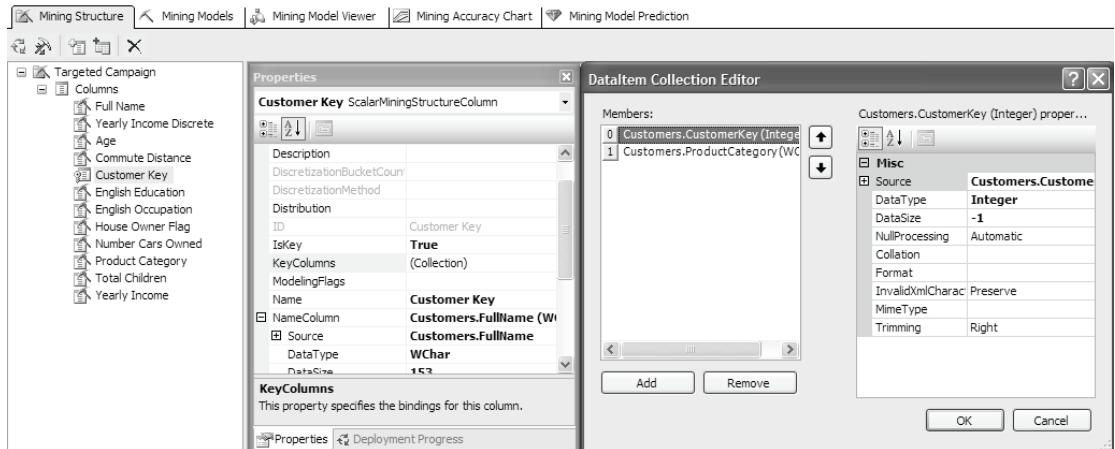

Figure 7.15 Use the Properties window to set the column properties and bindings.
Undoubtedly, you will find the Data Mining Designer (Figure 7.15) very similar to the Dimension Designer. It has a tabbed user interface consisting of five tabs. As you would use the Dimension Structure tab to make changes to dimension attributes, use the Mining Structure tab to make changes to the mining structure. Examples of typical structure tasks you can perform are adding columns or nested tables, renaming columns, deleting columns, etc. Remember that any changes of the mining structure will require re-processing the structure.
3. Add the *ProductCategory* column to create a composite key consisting of the CustomerKey and ProductCategory columns (see again Figure 7.15).